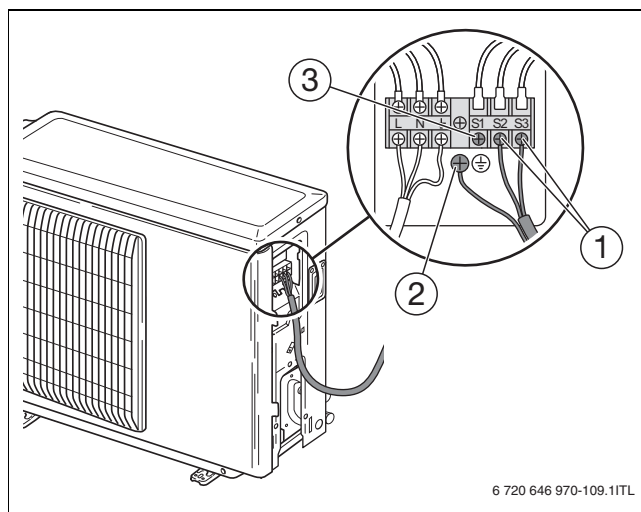

Fig. 38 External unit terminal
- Connect the earth cable to the external unit (→ Fig. 38, [1]). Use an earth cable which is longer than the other cables so that it will not become disconnected when strain is applied.
- Connect the CANBUS cables from the air to water heat pump control unit to terminals S2 to S3 (→ Fig. 38, [1]).